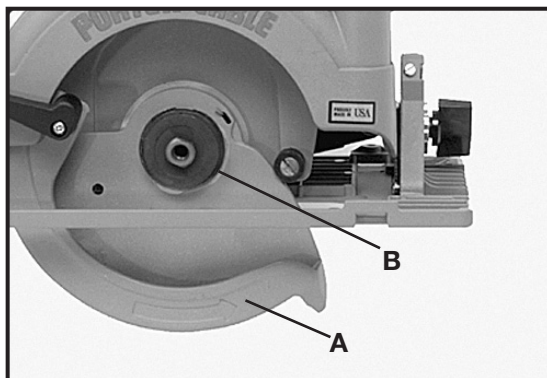

Fig. 3
▲WARNING The telescoping guard (A) Fig. 3, is a safety device important to your protection. Every time you use the saw, see that the telescoping guard rotates freely and returns quickly and completely to its closed position. At least once a month, remove any accumulated sawdust, pitch, etc., from the area around the hub (B), of the telescoping guard. DO NOT LUBRICATE THIS AREA. The hub has a dry film lubricated surface that does not need oiling. NEVER block or wedge the telescoping guard in the open position.